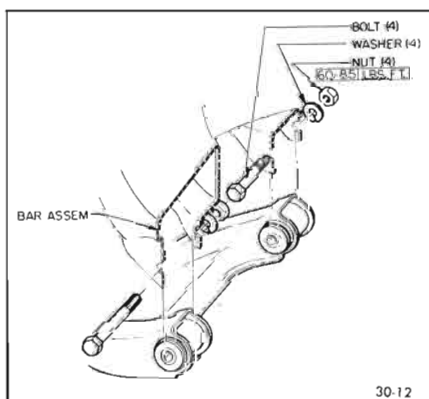

Figure 30-12—Lower Control Arm Attachment
upper nut and 78 lb. ft. on the lower nut. Do not loosen nut to align cotter pin holes. Tighten nut to next slot that lines up with hole in ball joint stud. See Figure 30-12.
- Remove the two nuts and lock washers attaching the control arm to the frame. See Figure 30-12.
- Install arm with the bolt heads to the front of the car. See Figure 30-12.